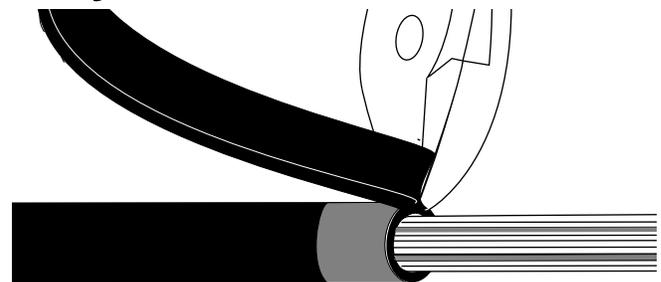

Figure 19
6.7 Trim off the sheath at the tape mark with side cutters (Figure 19) or scissors.